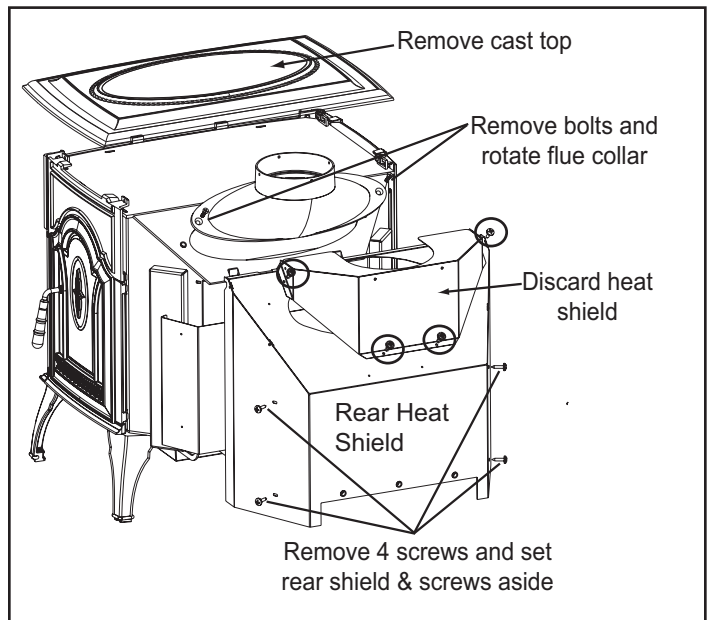

Figure 13.1
1. Lift off cast top. Remove 4 Phillips head screws from the heat shield. Discard heat shield and save the screws. **Figure 13.1.**
2. Remove 4 Phillips head screws from the rear shield, 2 on each side, lift shield off and set aside. **Figure 13.1.**
3. Remove 1 bolt from each side of the flue collar and retrieve nuts attached to bolts. Use 3/8" and 7/16" wrenches. **Figure 13.1.**
4. Turn vent to horizontal position. Inspect sealant to ensure a leak free application. Re-attach bolts. **Figure 13.1.**